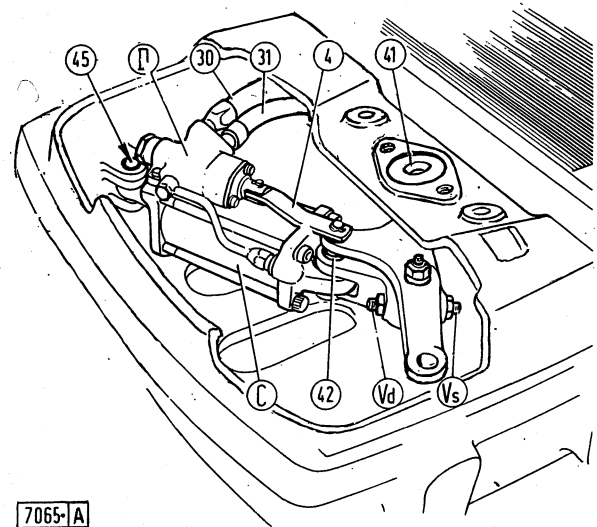

Fig.1 - Power-assist cylinder and control valve installation in front axle mounting.
- the oil reservoir (S) containing the filter (6) with replaceable element made of tin-plated steel mesh, located on the pump suction end. The reservoir is bracketed on the front end of engine ;
- a valve block (B), inserted on the suction and pressure lines, provided with two valves, incorporated; pressure relief valve (1) set at 95 to 100 Kg/cm² (1351 to 1422 p.s.i.) and anti-cavitation (check) valve (2) which allows steering the tractor with engine stopped or pump inoperative. In these cases, the anti-cavitation valve opens allowing the oil discharging from either chamber of the cylinder to flow to the other, thus avoiding the occurrence of vacuum in the latter ;
- a double-acting hydraulic cylinder (C) and spool-type control valve (D) installed in the front axle bracket (Fig.1) ;